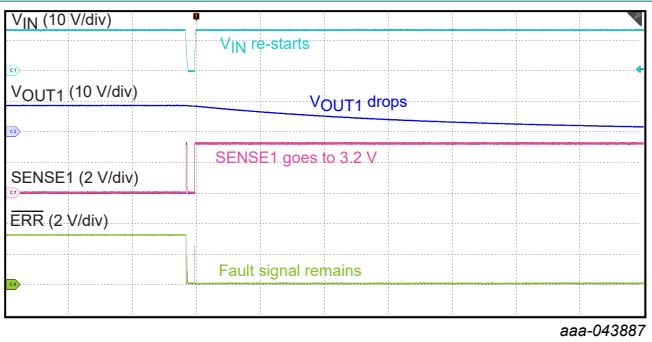

Fig. 27. Case 2: big output capacitor (latch)
- Latch behavior: The device detects reverse current, disables the output, and latches off. SENSEx and ERR maintain fault indications until EN or V_{IN} is toggled. Refer to Fig. 27 for more information.